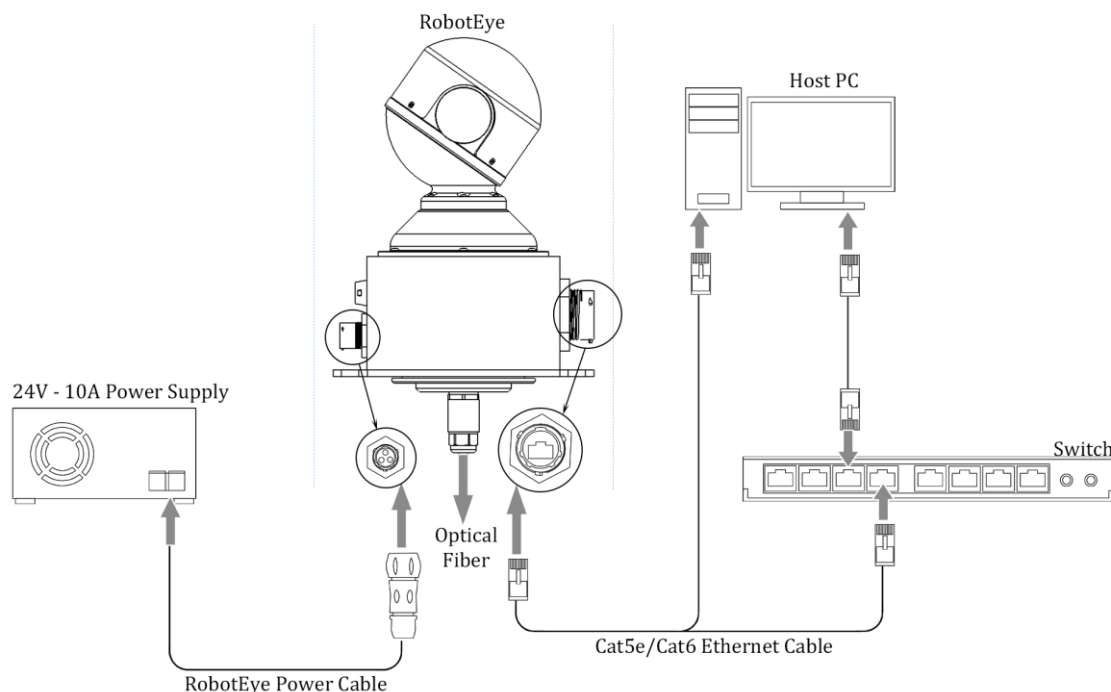

Figure 2-3 Wiring and connections for the REHS25 System
1. Connect one end of the Ethernet cable to the network port on the PC or Switch. Connect the other end to the REHS25 Ethernet Control port. Refer to Figure 2-3.